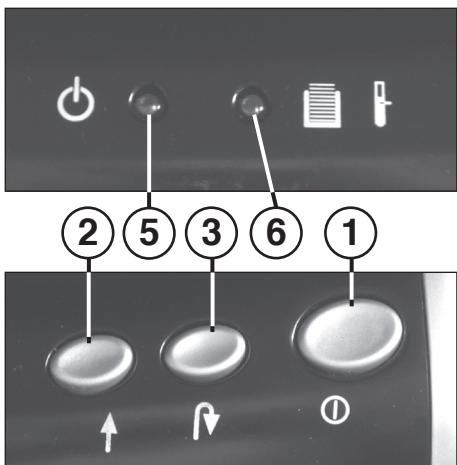

fig. 1
- 1 = Pushbutton switch „ready“ (fig. 1)
„Cutting system forward“ (fig. 1)
„Cutting system reverse“ (fig. 1)
- 5 = Pilot lamp „ready“ (fig. 1)
6 = Pilot lamp (red / yellow) (fig. 1)
Turn machine on with pushbutton switch (1) (fig. 1). Pilot lamp lights up (5) (fig. 1).
If the receptacle for paper is full, the machine switches off. A horn sounds. The control display (6) (fig. 1) lights up (red).
- Pull the receptacle (9) with the collection tray (10) out of the lower housing.
- The horn stops. The control display (6) (fig. 1) goes out.